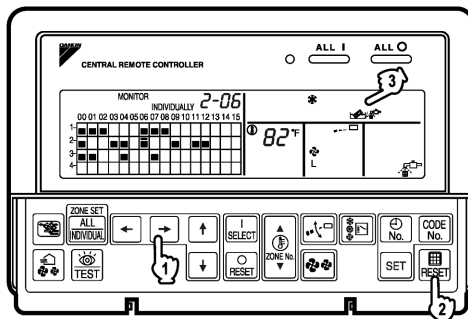

Fig. 16
■ **Display of time to clean (Fig. 16)**